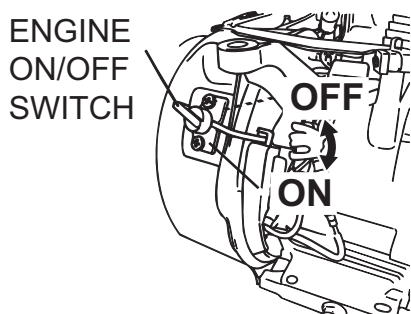

Figure 11. Engine ON/Off Switch
2. Place the Engine ON/OFF switch (Figure 11) in the "ON" position.
6. If the engine has started, slowly return the choke lever (Figure 11) to the **CLOSED** position. If the engine has not started repeat steps 1 through 5.
2. Place the Engine ON/OFF switch (Figure 11) in the "**OFF**" position.